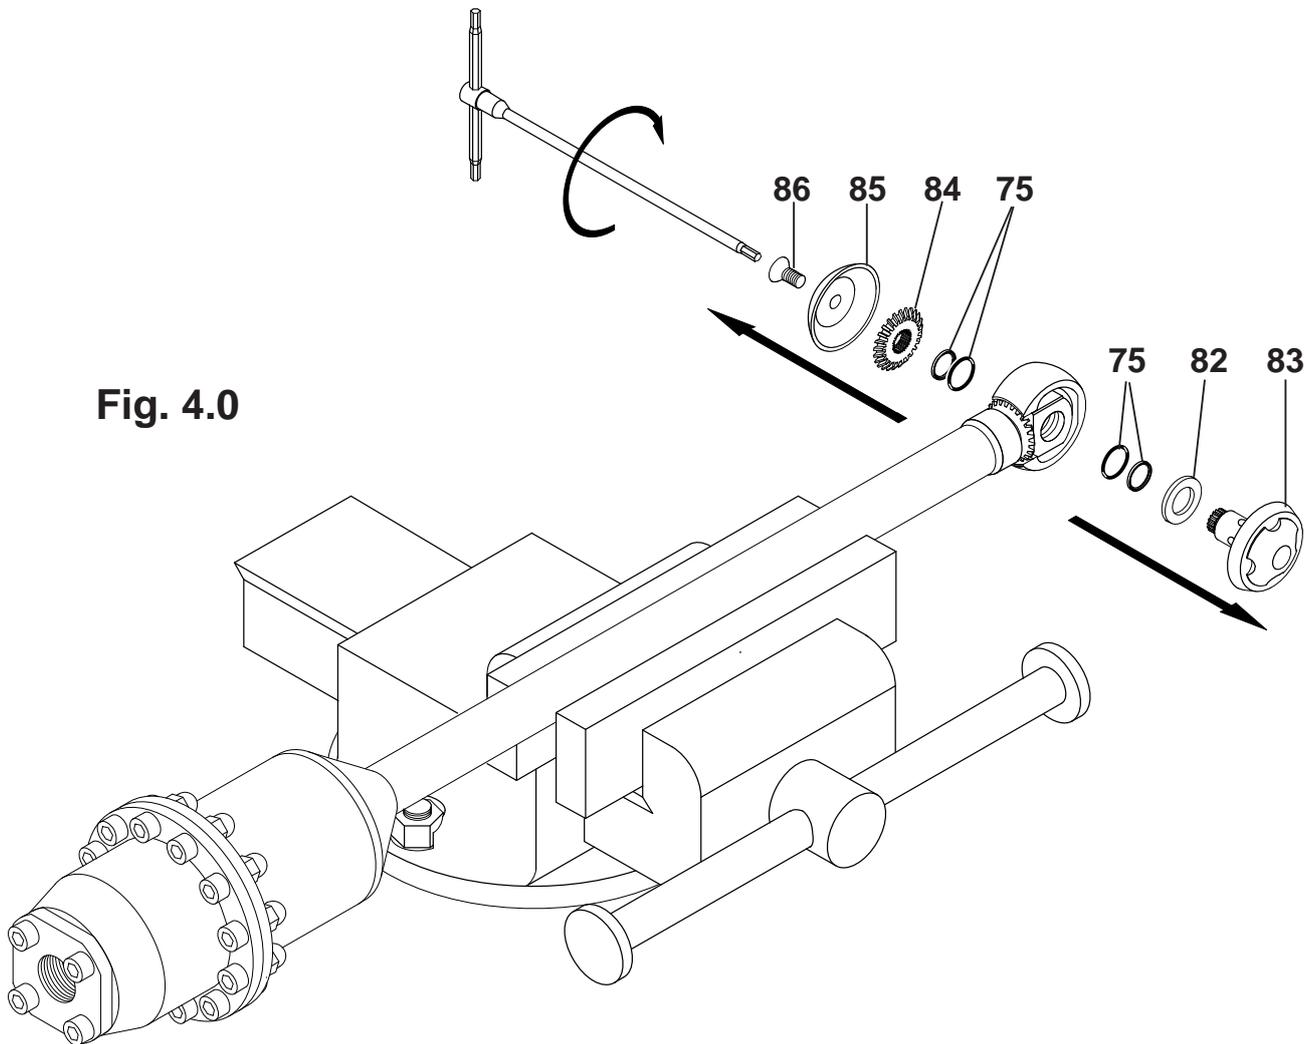

Fig. 4.0
4.02) Remove the protection **pos.85**, the crown **pos.84** and slide the nozzle holder pin **pos.83** out with the washer **pos.82** (fig.4.0).